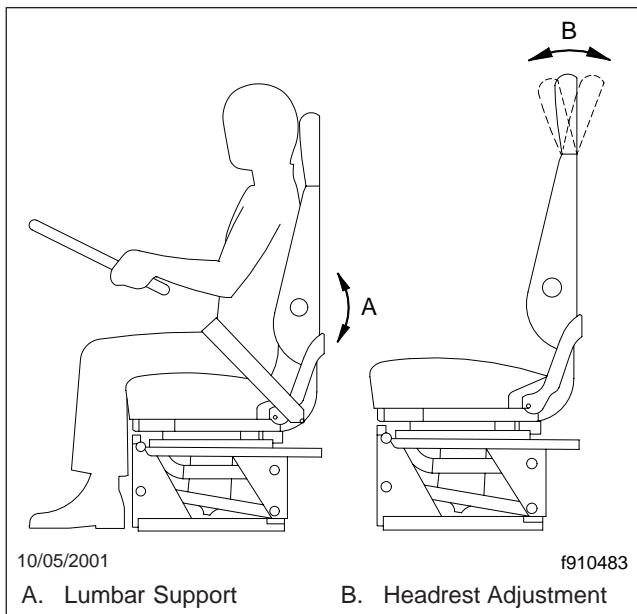

Fig. 5.7, Lumbar Support and Headrest Adjustment
This adjustment is either mechanical or air controlled, depending on make and model of the seat (Fig. 5.7).
4. Headrest: When this adjustment is made, the upper part of the backrest (back cushion) changes angle to provide head and upper back support (Fig. 5.7).